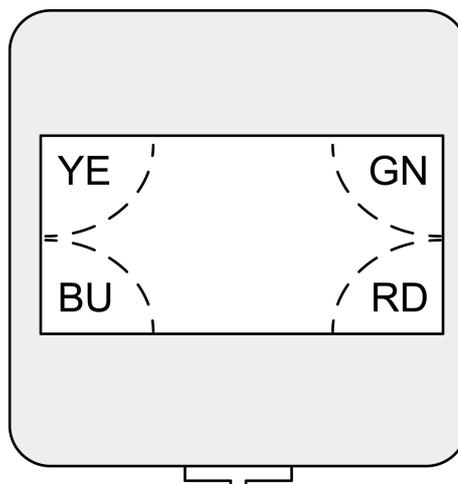

Figure 8: Status LED
Behind the sensor window (4) there are status LEDs for indicating different states of operation (Figure 8).